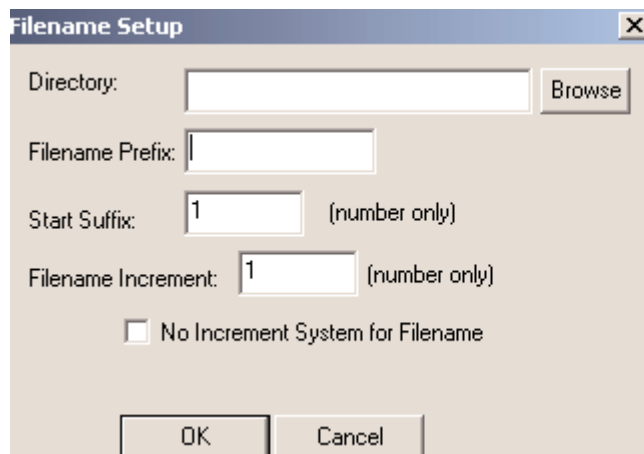

Figure 5: Filename Setup for Repetitive Tests
9. The software allows users to setup a filename system with a prefix and an increment for repetitive tests with auto-naming of files for. This feature allows high speed testing of repetitive tests. To activate this option, go to "File/Setup FileName". The dialog box in Fig. 5 should appear in your screen. Once the prefix, first start suffix and increment are set, the automatic naming system will be assigned to the data when the user clicks on "Start Acquisition" either in VIEW or RUN mode. The filename system can be cancelled by checking the "No Increment System for Filename" box.